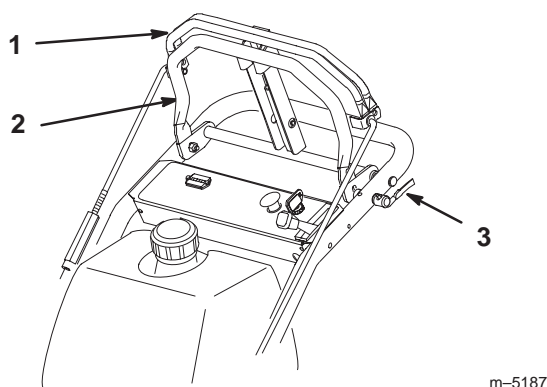

Figure 15
1. Place the quick release levers in the unlock position (Fig. 15).
3. Place the quick release levers in the lock position (Fig. 15).
1. To go forward, slowly press on the upper control bar against the reference bar (Fig. 15).
2. To go straight, apply equal pressure to both ends of the upper control bar (Fig. 15).
3. To turn, release pressure on the upper control bar side toward the direction you want to turn (Fig. 15).
4. Adjust reference bar to maintain a comfortable pre-set ground speed (Fig. 15).
5. To stop, release the upper control bar to stop both wheels (Fig. 15).
1. To go backward, slowly pull the upper control bar rearward (Fig. 15).
3. To turn, release pressure on the upper control bar side away from the direction you want to turn (Fig. 15).
4. To stop, release the upper control bar to stop both wheels (Fig. 15).
1. To stop, release the upper control bar to stop both wheels (Fig. 15).